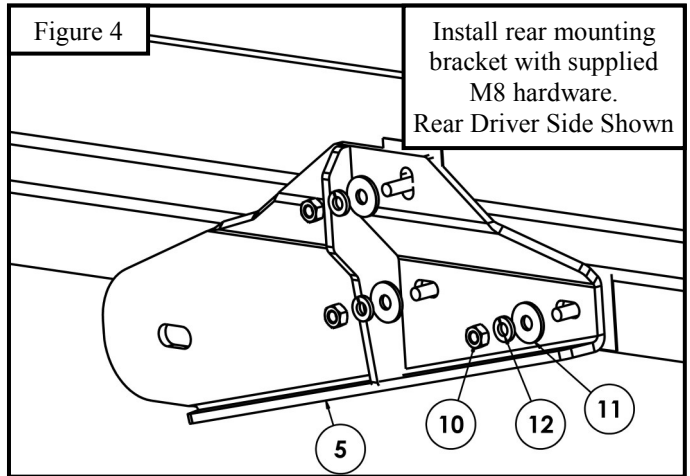

Figure 4
4. Loosely install driver side mounting brackets with supplied M8 hardware. Repeat for passenger side, see **Figures 4 & 5**.